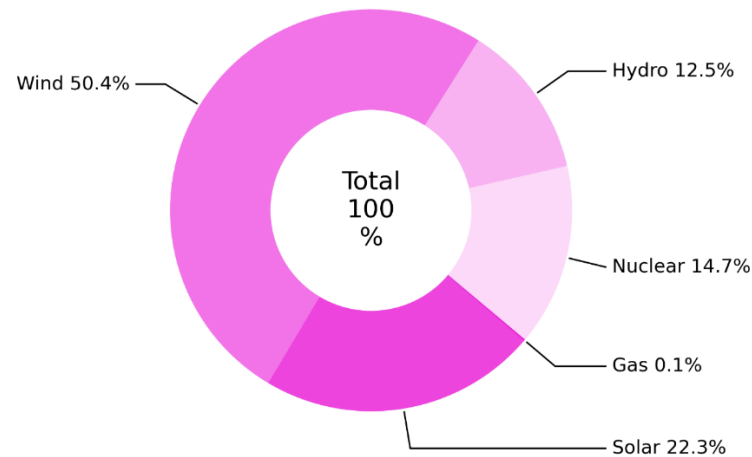

Figure 2 Electricity generation mix
- 3) Plot of the final generation mix as a pie chart. (an example is shown in Figure 2)